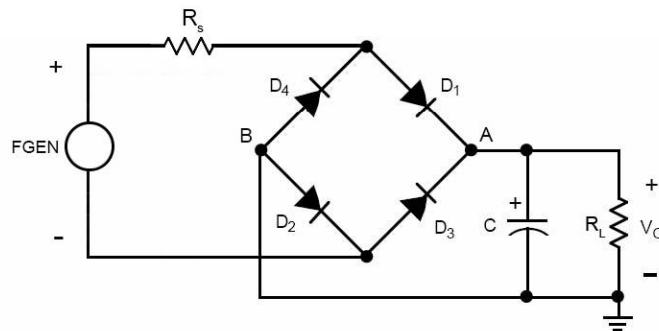

Figure 11: Full-wave rectifier with voltage-dropping series resistor  $R_s$
- I. Build the circuit shown in Figure 11 on the breadboard.